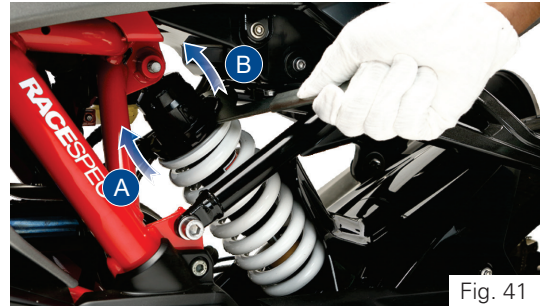

Fig. 41
- Locate the adjuster shock absorber rear and handle ring spanner of tool kit (**ref. page 160**) properly into the notches of pre-load adjuster (ref. Fig. 41).
- Carefully rotate the adjuster clockwise (A) to increase the pre-load (hard suspension).
- Else, rotate the adjuster in anti-clockwise (B) to decrease the pre-load (soft suspension).